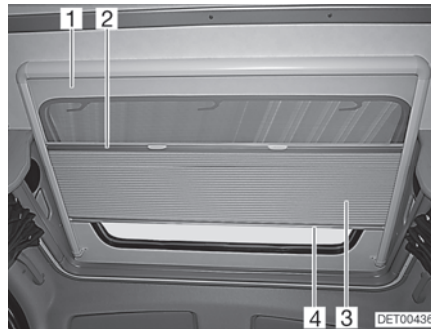

Fig. 48 Roof window
**Roman shade** The Roman shade (Fig. 48,3) is permanently connected to the insect screen (Fig. 48,1).
- Hold the Roman shade in the centre of the bottom rod (Fig. 48,4) and carefully draw it downwards.
- Slowly return the Roman shade to its initial position with the bottom rod (Fig. 48,4).
- Hold the insect screen at the centre of the bottom rod (Fig. 48,2) and carefully pull it downward as far as it goes.
- Slowly return the insect screen on the bottom rod of the Roman shade (Fig. 48,4).